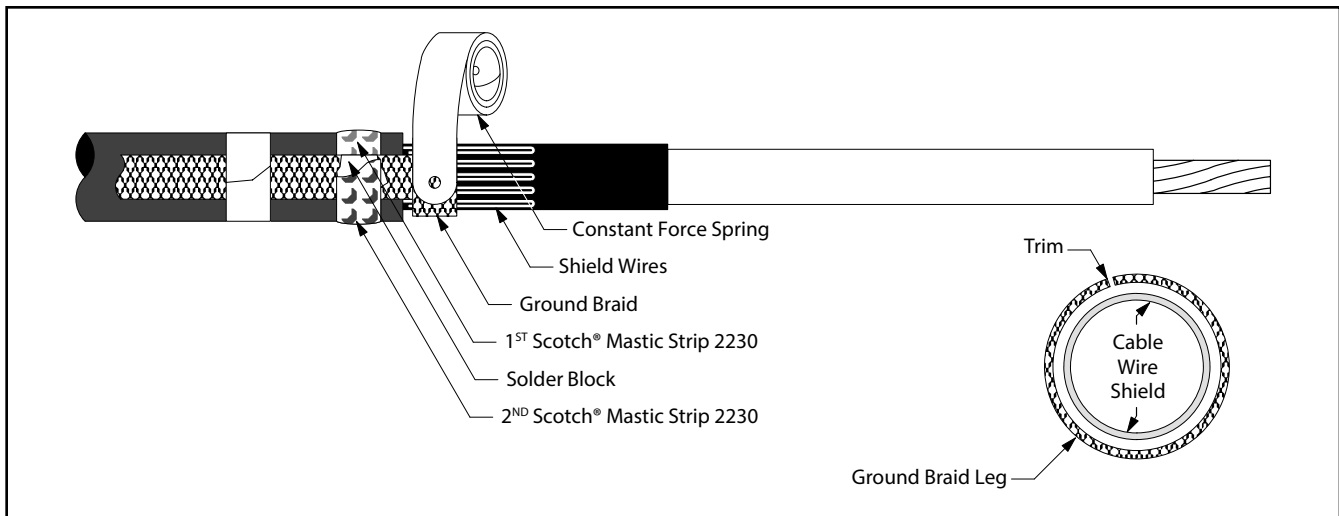

Figure 12
- 8.3 Wrap ground braid around cable shield wires one complete wrap, trim excess to prevent overlap and secure in place with constant force spring. Wrap spring in same direction as ground braid (*Figure 12*). Cinch (tighten) the spring after wrapping the final winding.
- 8.4 Select second Scotch® Mastic Strip 2230 from kit and remove white release liners. Apply a second **SINGLE WRAP** of mastic over solder block on ground braid and previously applied mastic (*Figure 12*). Cut off excess.